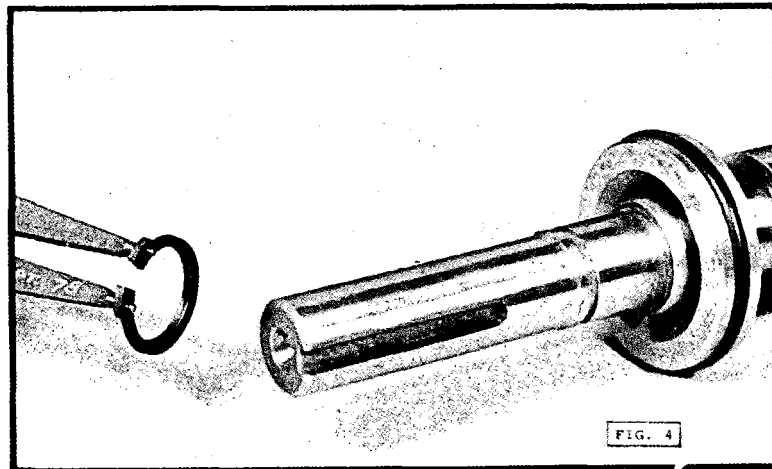

FIG. 4
4. Use snap ring pliers and remove snap ring (021), Fig. 4.
6. Place ball bearing (020) on shaft. Then using a hollow tube, press on bearing inner race to seat bearing against snap ring. (Fig. 4).